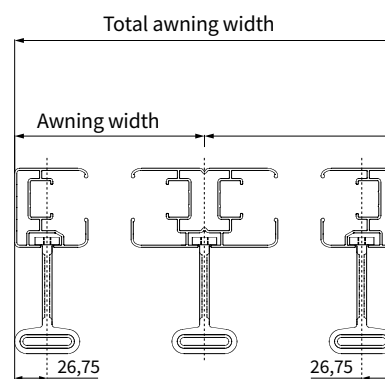

Fig. 2 Front view
**Attention!** Link exactly above the heart of the click frames. **(See Figure 2)**